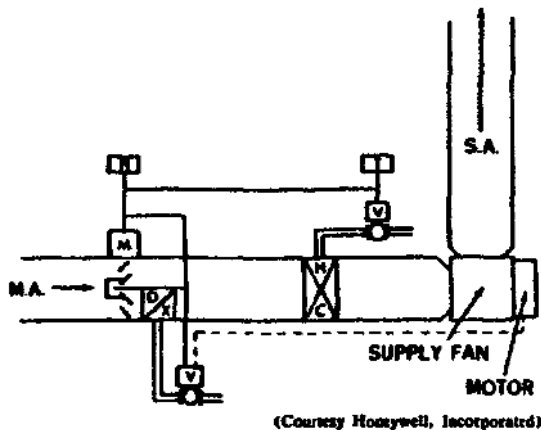

Figure 10. Dehumidification control in a D/X face and bypass system.
20. *Control of dehumidification with a face and bypass damper.* We discussed the use of face and bypass dampers when we discussed D/X coils. Now we will apply this damper system to humidity control, as shown in figure 10. A space humidity controller is used to open the D/X coil valve when a predetermined minimum dehumidification load is reached. It also modulates the face and bypass damper to provide the mixture of dehumidified and bypass air necessary to maintain space relative humidity.
23. The space thermostat acts in a way that is similar to that of the thermostat in figure 10. The control circuit to the D/X coil valve is connected to the supply fan so that the valve will close when the fan is shut off. This arrangement helps prevent coil frosting and reheat coil freezeup.